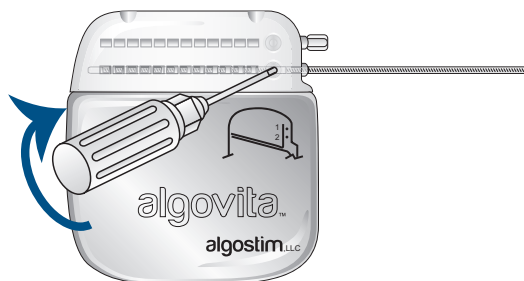

Figure 10. Tightening the setscrews.
- b. Turn the torque wrench clockwise until it clicks once (*Figure 10*). If you continue to turn, the wrench will continue to click, but the additional turns do not tighten the setscrew further.